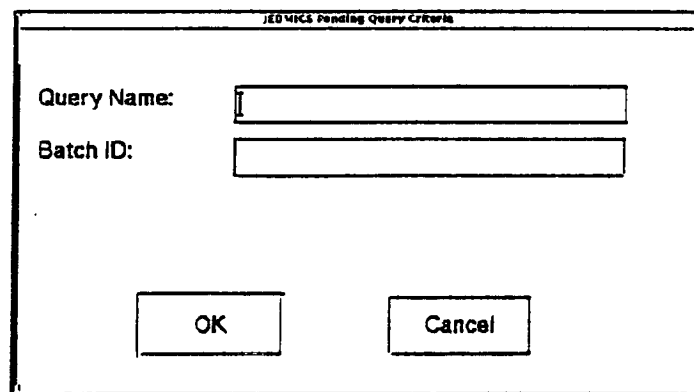

Figure 43. The JEDMICS Pending Query Screen
2. The JEDMICS Pending Query Criteria screen (Figure 43) is displayed. The user must enter a unique name to denote the Query and must enter a Pending Batch ID. The Pending Batch ID number should be obtained from the JEDMICS system administrator